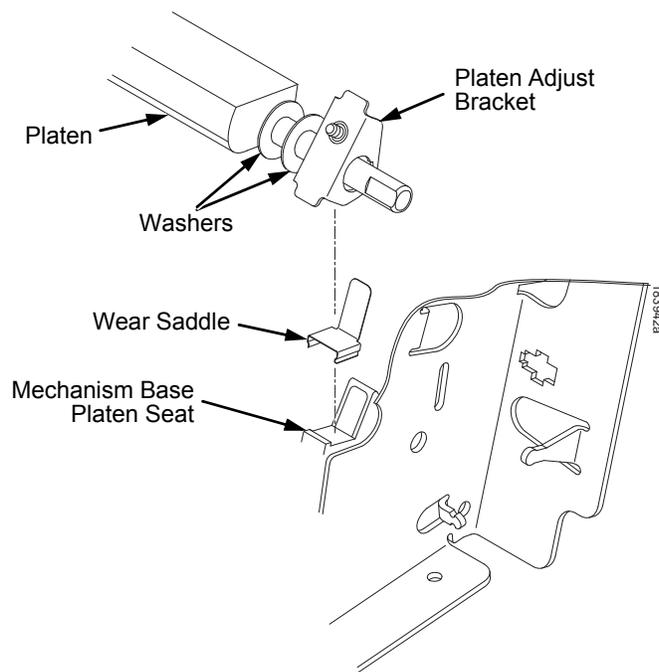

Figure 4. Positioning the Platen Adjust Brackets
4. Make sure the two wear saddles are set flush into the corners of the mechanism base platen seat. (See Figure 4 below.)
8. Insert the shorter platen shaft through the left platen adjust bracket and through the opening in the left side plate. Rotate the longer shaft into the opening in the right side plate and position the platen adjust brackets as shown in Figure 4.